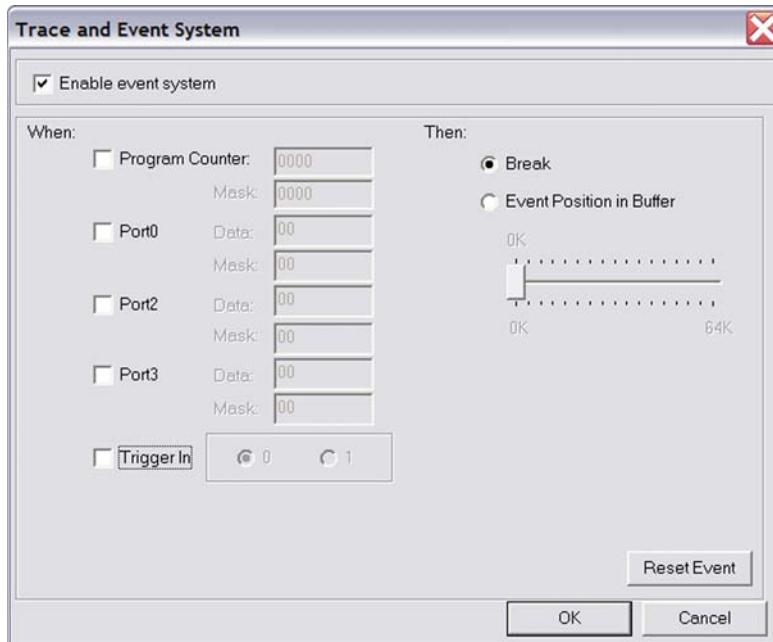

Figure 11. Trace and Event System Window
1. Select Tools --> Trace and Event System. The Trace and Event System window appears (Figure 11).